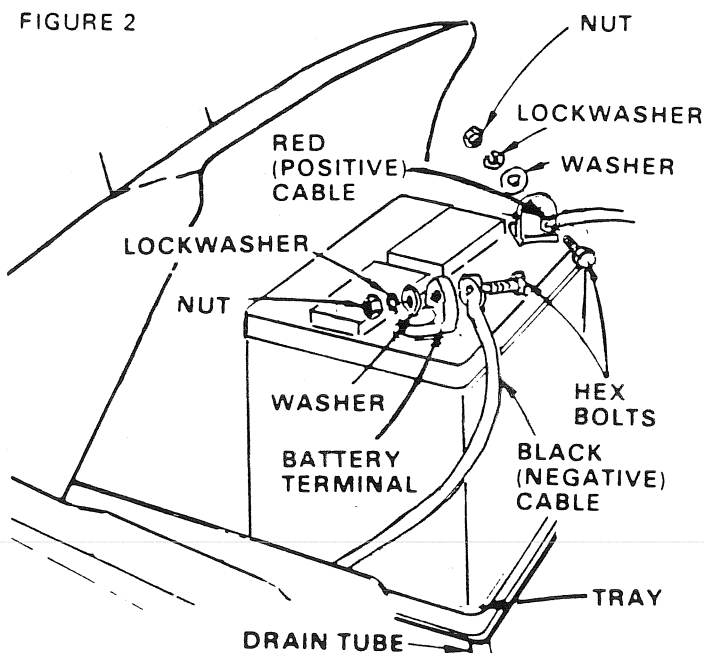

FIGURE 3
- c. Place Battery in Plastic Tray (Battery Terminals to rear of Tractor) (Fig. 3).
- a. Connect RED Battery Cable to Positive (+) Battery Terminal with Hex Bolt, Flat Washer, Lockwasher and Hex Nut (Fig. 3). Tighten securely.
- b. Connect BLACK Ground Cable to Negative (-) Battery Terminal with remaining Hex Bolt, Flat Washer, Lockwasher and Hex Nut (Fig. 3). Tighten securely.